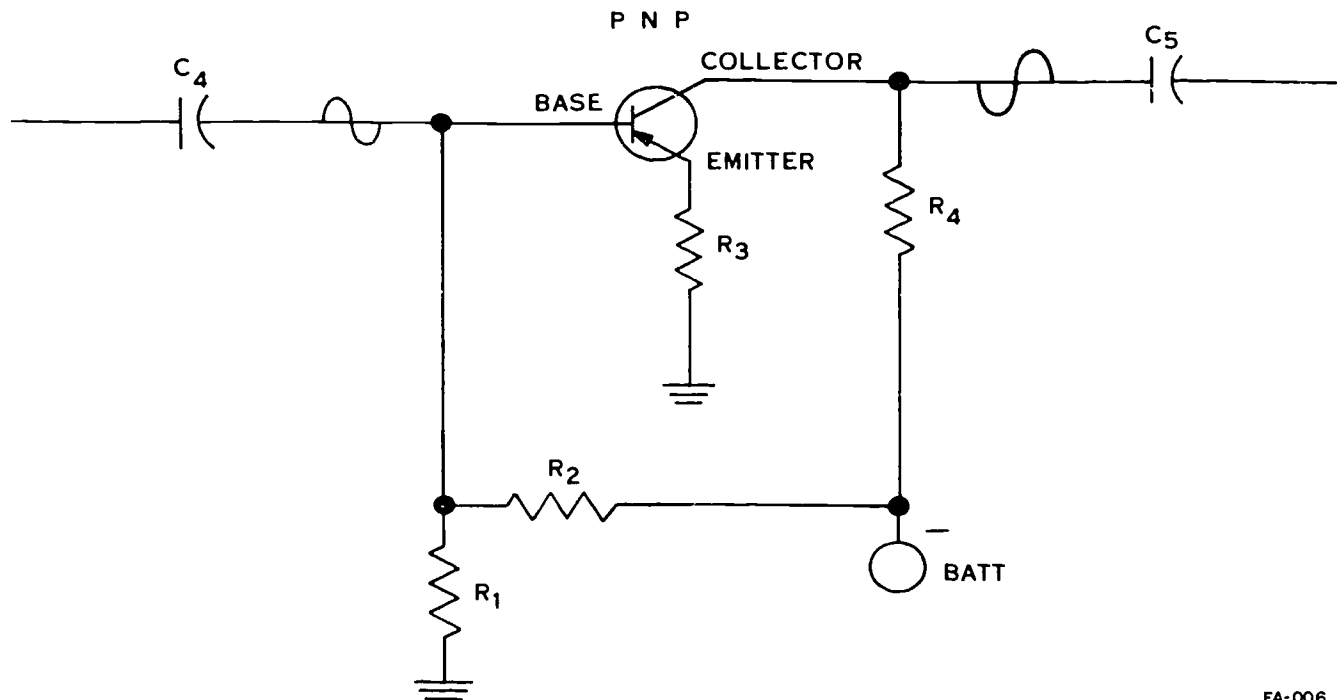

Figure 6-3. Common-emitter amplifier schematic diagram.
Common-emitter amplifiers. Common-emitter amplifiers provide high voltage and power gain; thus, they are used almost exclusively in amplifier circuits. In addition, they yield a moderate current gain. Figure 6-3 shows an amplifier stage which has the emitter connected to a grounded resistor—with the base receiving a signal from a coupling capacitor. Another feature of this type of amplifier is the phase-reversal between the base and the collector. Therefore, a positive signal at the base results in an amplified negative signal at the collector. You should realize that the operating principle for this amplifier is opposite to the principle which you noted in the common-base amplifiers. Although the contrasting factors are the biasing battery and the incoming signal, the positive incoming signal for the emitter amplifier opposes the bias voltage, which is contrary to the effect you noted in the common-base amplifier. Hence, the negative signal at the common-emitter amplifier also is opposite in effect to the negative signal at the common-base amplifier. **REMEMBER:** Each small change to the bias voltage developed by resistors R1 and R2 results in a large change at the output of the stage. For example, 1 milliampere of change at the input can result in a 10-milliampere change at the output. Resistor R3 stabilizes the amplifier by following the changes in collector current. For example, an increase in collector current causes the voltage at R3 to increase. The reduction in potential between the base and emitter reduces the bias current, thus keeping the amplifier within its correct operating characteristic.
1. What symbol of figure 6-5 could be used to represent the circuit in figure 6-3?